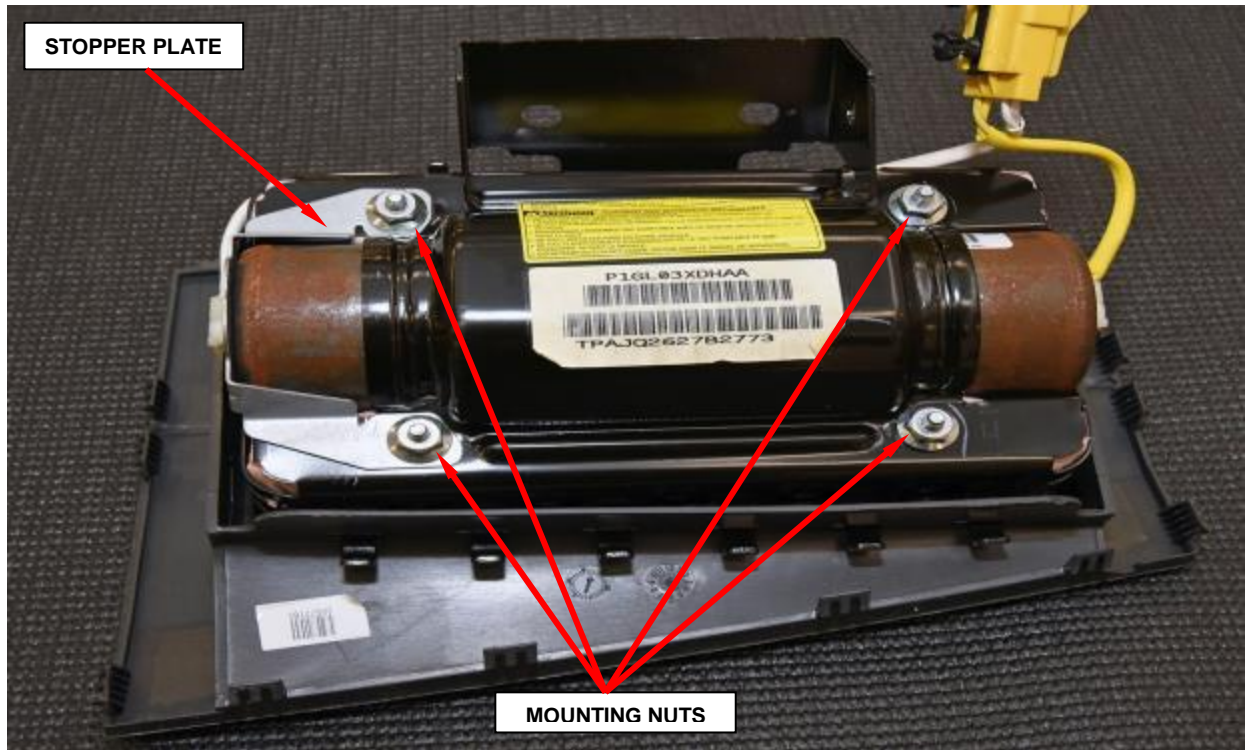

Figure 7 – Mounting Nuts and Stopper Plate
- d. Remove and **discard** the four mounting nuts and remove and save the stopper plate from the passenger airbag module (Figure 7).
- o. Install the stopper plate to the airbag module (Figure 7).
- p. Install the four **NEW** mounting nuts to the airbag module and tighten to 53 in. lbs. (6 N·m) (Figure 7).